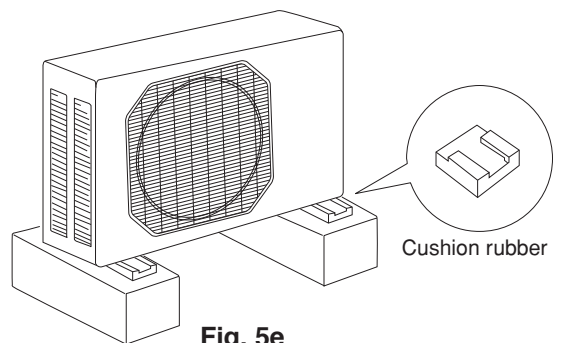

Fig. 5e
- install cushion rubber under unit's feet to reduce vibration and noise. (Fig. 5e)